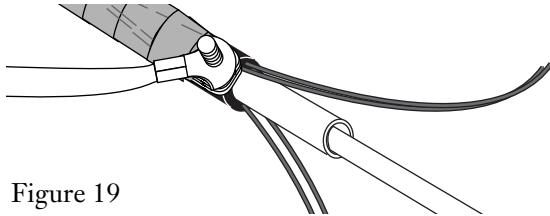

Figure 19
- f) Repeat these steps until the desired length of central tube is removed, leaving at least 2.5 cm (1 in.) of exposed central tube beyond the end of the sheath (Figure 19). *The length of exposed central tube may vary depending on the hardware being used.*